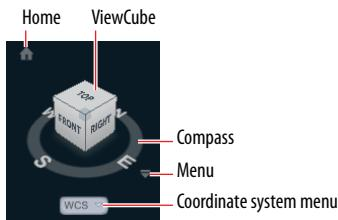

FIGURE 16.10 ViewCube navigation interface
1. Open the ViewCube menu (see Figure 16.10), and select Set Current View As Home.